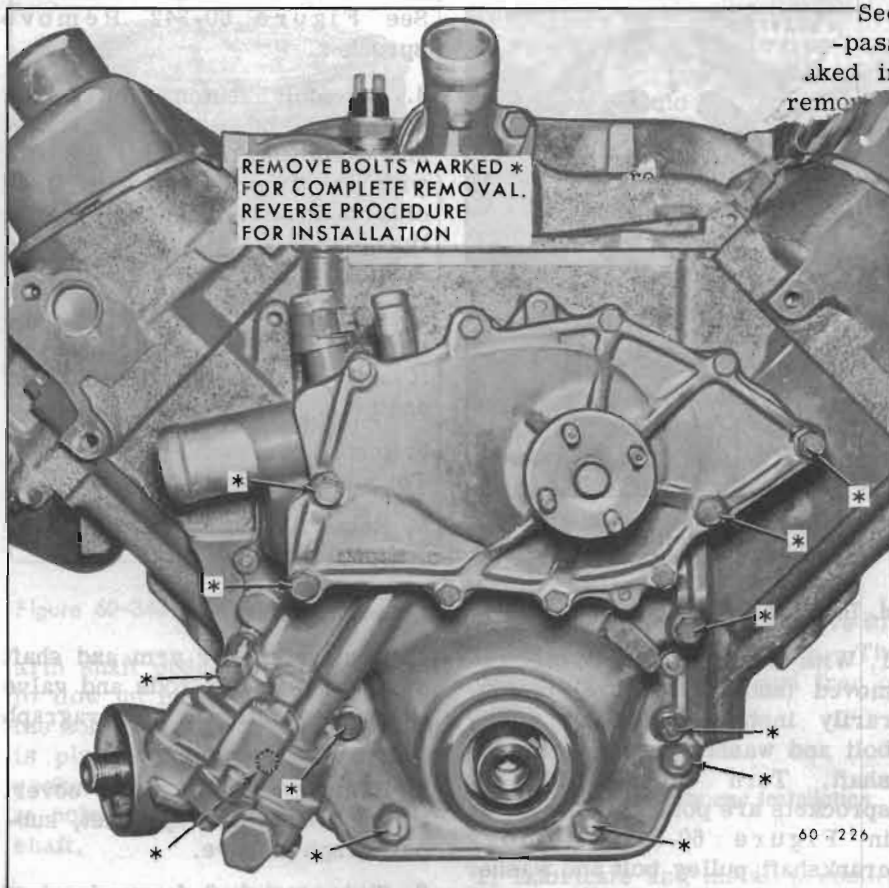

Figure 60-340—Timing Chain Cover Installation
4. Lubricate the bolt threads before installation and install as shown in Figure 60-340. Torque bolts to 17-23 lb. ft.